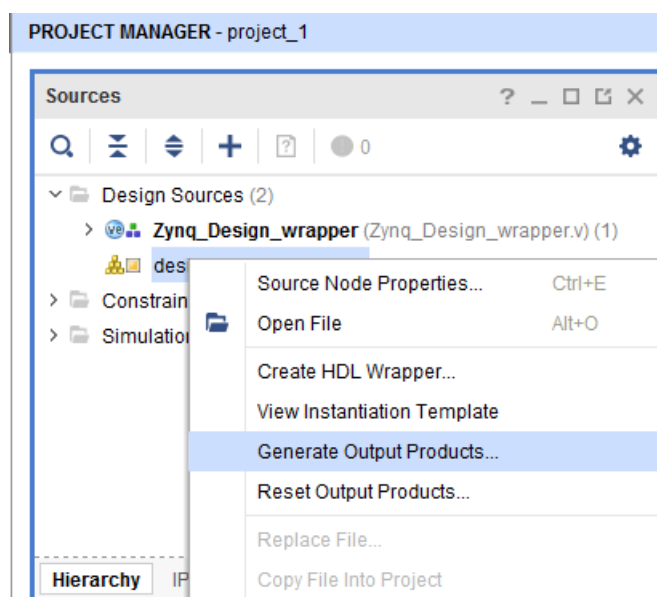

Figure 10-19: **Generate Output Products**
2. In the Sources browser in the main workspace pane, a Block Diagram object called `Zynq_Design` is at the top of the Design Sources tree view (Figure 10-19). Right-click this object and select **Generate Output Products**.